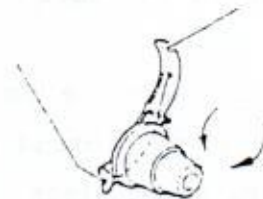

Fig. 11
1. In fig 11, turning the tension disc to left, the tension becomes weak, and doing oppositely, it becomes strong.